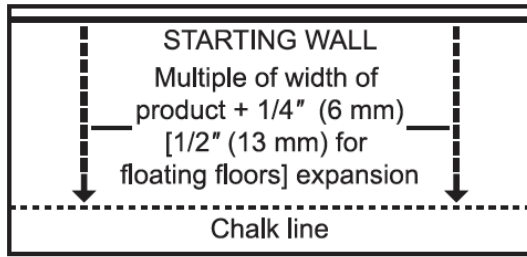

Figure 5
- In at least two places, at least 18" (46 cm) from the corner, measure out equal distance from the starting wall (**Figure 5**) and snap a chalk line. The measurement must be the sum of the width of the flooring plus an additional 3/8" (9.5 mm) to allow for 1/4" (6 mm) expansion space and the width of the tongue. Allow 1/2" (13 mm) expansion when installing floating floors.
- In at least two places, at least 18" (46 cm) from the corner, measure out equal distance from the starting wall (**Figure 5**) and snap a chalk line. The measurement must be the sum of the width of the flooring plus an additional 3/8" (9.5 mm) to allow for 1/4" (6 mm) expansion space and the width of the tongue.